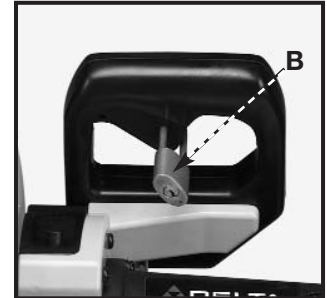

Fig. 12
⚠ WARNING When the miter saw is not in use, the switch should be locked in the "OFF" position using a padlock (B) Fig. 12 with a 3/16" diameter shackle to prevent unauthorized use of the saw.